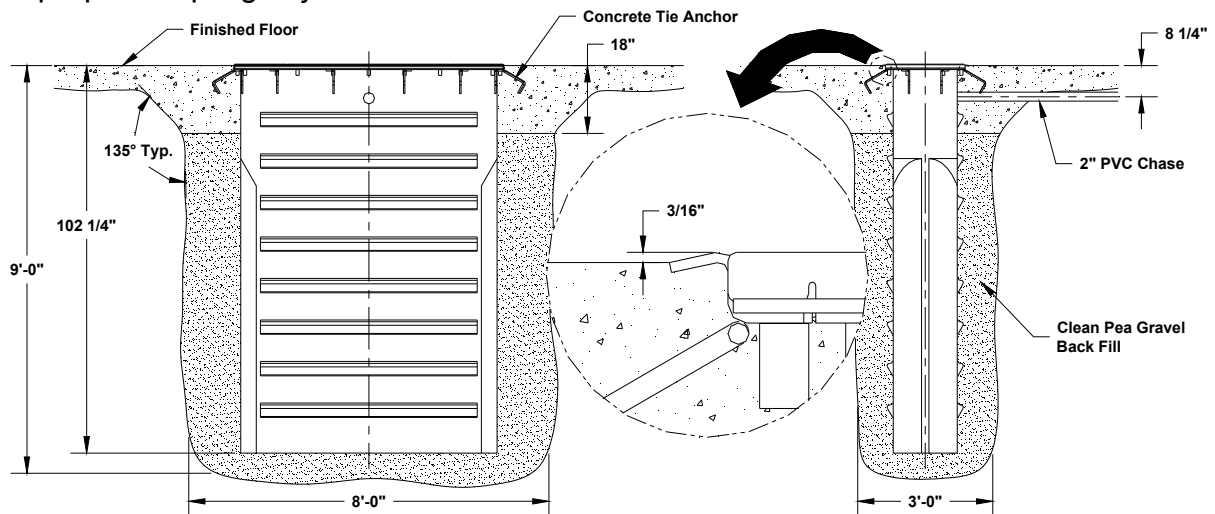

Fig. 2
New construction requires an excavation as shown in **Fig. 2**. **NOTE:** Concrete must be finished to edge of concrete tie (3/16" below top of concrete ties, see **Fig. 2** below). All depths are measured from the finished floor level. Failure to comply will void the warranty. The power unit may be installed on the nearest wall or floor pedestal. The power unit should be located out of the working area around the lift and vehicle, but close enough to allow good visibility while operating the lift. Hydraulic and air lines from the lift should be recessed under the slab in a 2" sch. 40 PVC chase. CLI will supply the proper coupling to join the PVC chase to the lift.
9. Pour concrete floor taking care not to run concrete in or on top of the lift / containment assembly. **NOTE:** Concrete must be finished to edge of concrete tie (3/16" below top of concrete ties, see **Fig. 2**). The floor should slope away from the lift for drainage. The floor slope should not exceed 1/16" per foot. 3500 psi concrete, steel reinforced per local commercial practice is required. The new concrete must be mechanically joined to the existing floor with rebar.